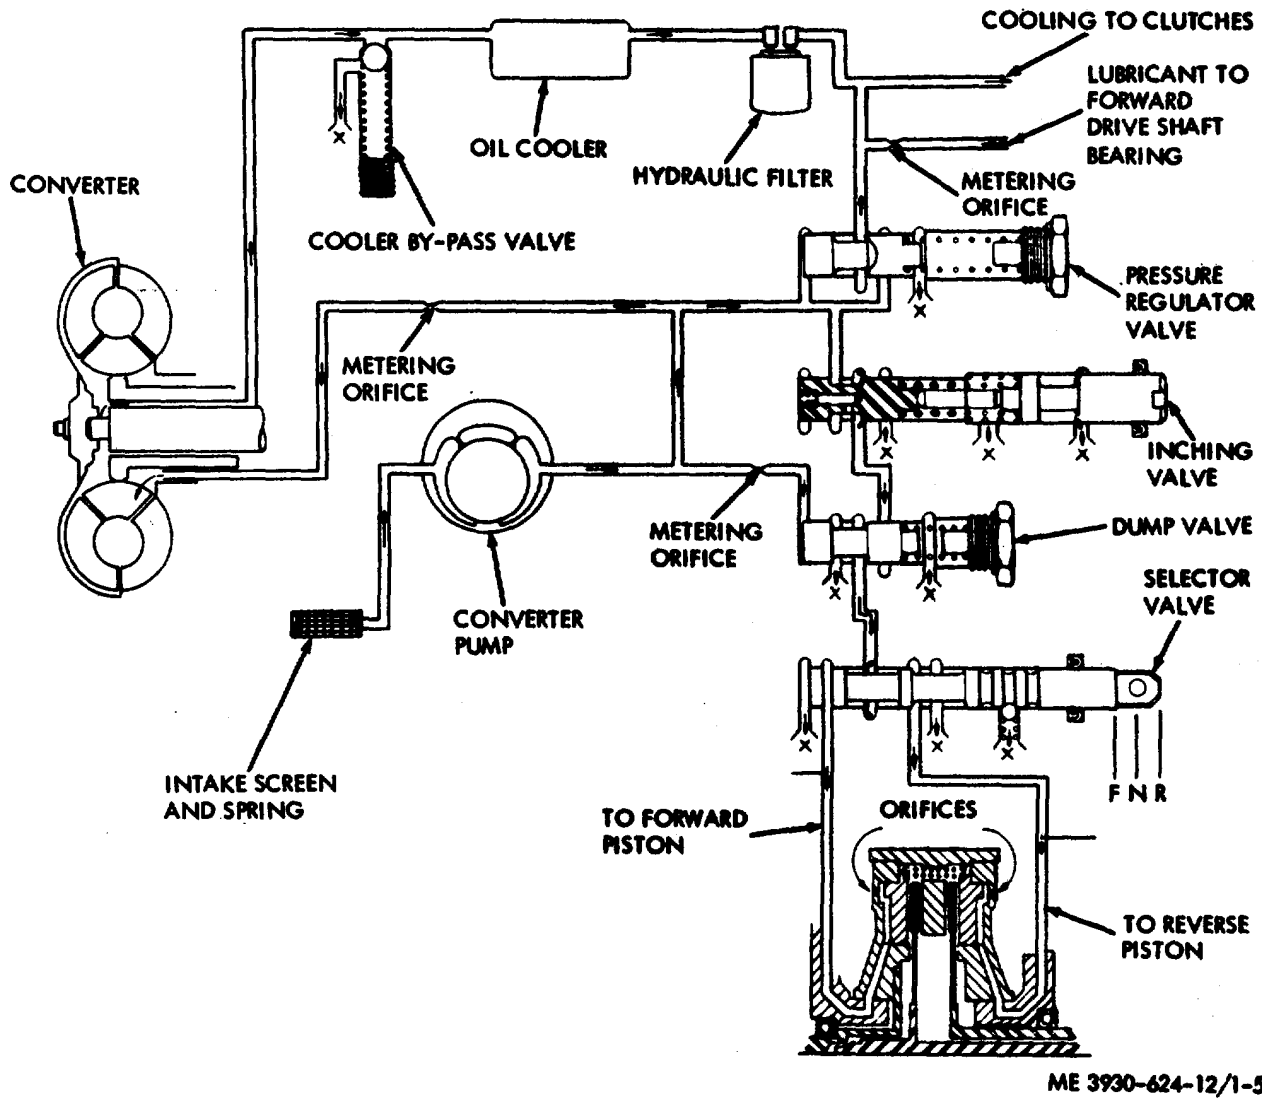

Figure 1-5. Transmission and torque converter hydraulic system diagram.
(27) Transmission and torque converter hydraulic system diagram. Refer to figure 1-5.